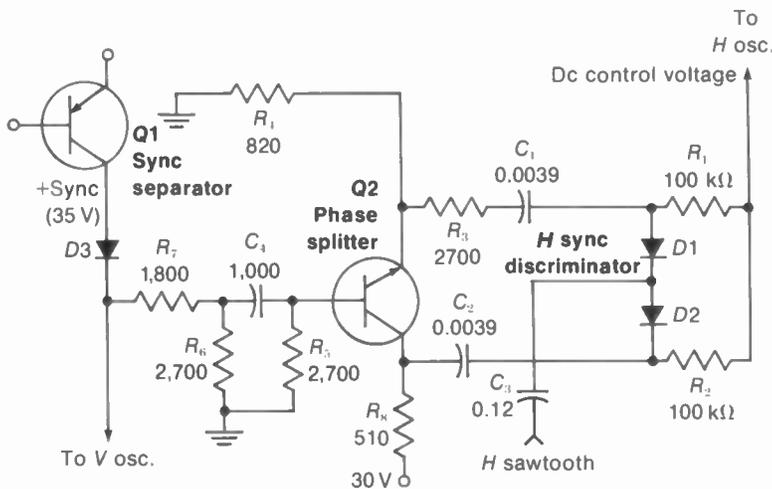

FIGURE 16-27 TRANSISTOR SYNC PHASE SPLITTER FOR PUSH-PULL DISCRIMINATOR. R VALUES IN OHMS. C VALUES MORE THAN 1 IN pF OR LESS THAN 1 IN  $\mu$ F.
**Phase splitter for push-pull sync discriminator.** In Fig. 16-27, the clipped sync output from  $Q1$  is coupled to the phase splitter  $Q2$ . Note that  $Q1$  is a PNP transistor, which requires negative sync for the video input to produce positive clipped sync in the collector output. The phase splitter  $Q2$  is an NPN transistor, however. Output is taken from both the emitter and collector. The collector, shown at the bottom, has a supply voltage of  $30$  V, with the  $510 \Omega$  of  $R_x$  as the collector load resistance. In the emitter circuit, the  $820 \Omega$  of  $R_4$  is the load.
14. In Fig. 16-27, the output at the collector of phase splitter *Q2* is negative sync for the cathode of diode *D2*.
17. In Fig. 16-27, if diode *D1* in the sync discriminator is defective, the picture will have diagonal bars.